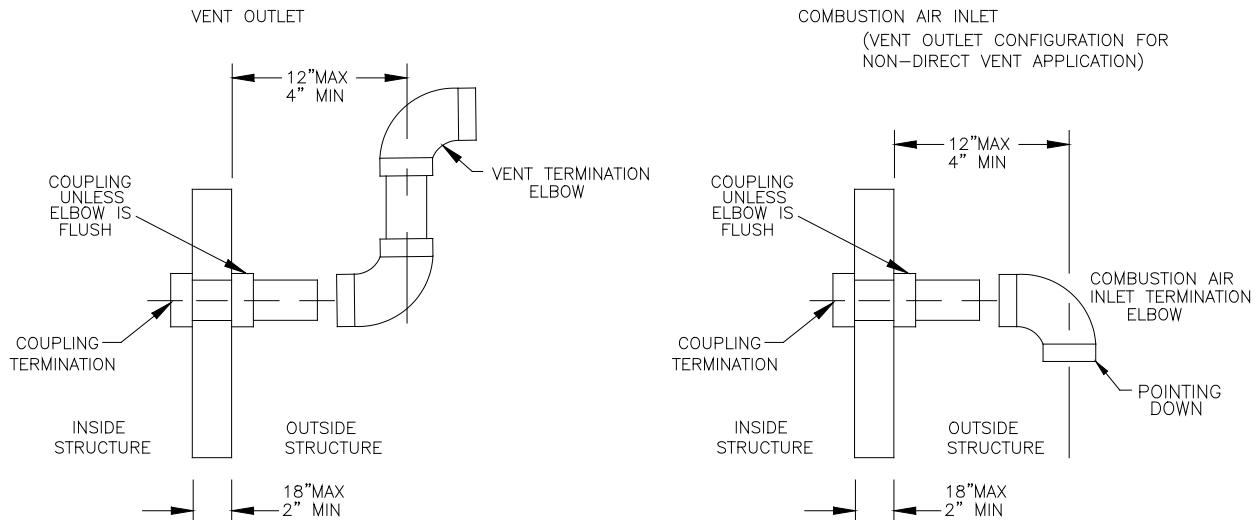

Figure 2: Proper Direct Vent Terminations (RH & LH views) and Vent Termination Only w/o Outside Combustion Air Intake (RH view).
1. Vent and combustion air pipes may pass through a maximum wall thickness of 18 inches. The minimum wall thickness is 2 inches. Referring to Figure 2, the maximum distance from the outer wall to the center of the elbow is 12 inches.
2. The exhaust vent termination elbow shall be installed in accordance with these instructions and any applicable local codes. Refer to Figures 2 and 3 for typical examples of proper terminations.
This furnace may be **horizontally**, i.e. sidewall, vented using an exhaust vent pipe alone without drawing in outside combustion air. When single-pipe, sidewall venting a furnace, combustion air is drawn from the indoor space. This type of installation is **not** classified as a direct vent installation. However, the same exhaust venting guidelines apply as for a direct vent installation, except the exhaust termination will be similar to the air intake of the "two- pipe", direct vent installation. Refer to depictions of proper intake terminal installations in Figures 2 and 3. Referring to the left-hand (LH) sketch in Figure 2, vent termination will consist of one (1), 90° elbow, opening downward.